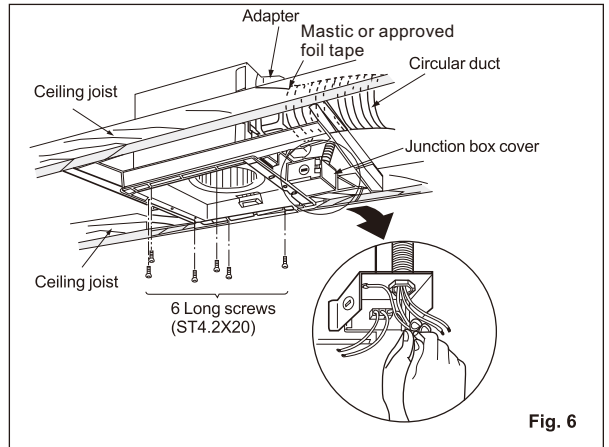

Fig. 6
3. Insert the circular duct (6 inches) to the adapter, Seal duct to duct adapter with mastic or approved foil tape. Remove the junction box cover and secure conduit to junction box knockout hole. (7/8 inch) (Fig. 6)